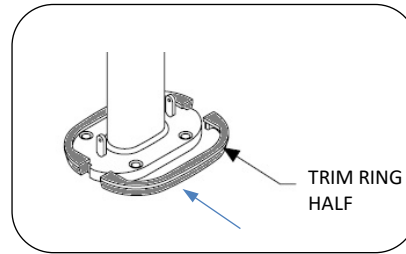

FIG. 4 – INSTALL TRIM RING
12. Install trim ring halves as shown in Fig. 4. Pieces snap into place.